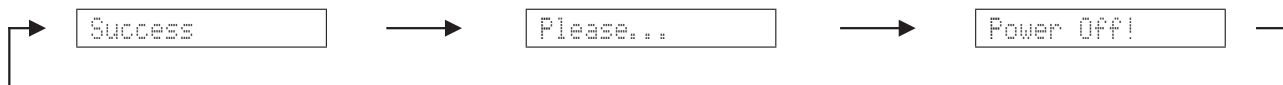

Fig. 3
4. When writing of the firmware is completed, "Success", "Please..." and "Power Off!" are displayed repeatedly. (Fig. 3)
4. ファームウェアの書き込み完了後、“Success”、“Please...”、“Power Off!” が繰り返し表示されます。(Fig. 3)